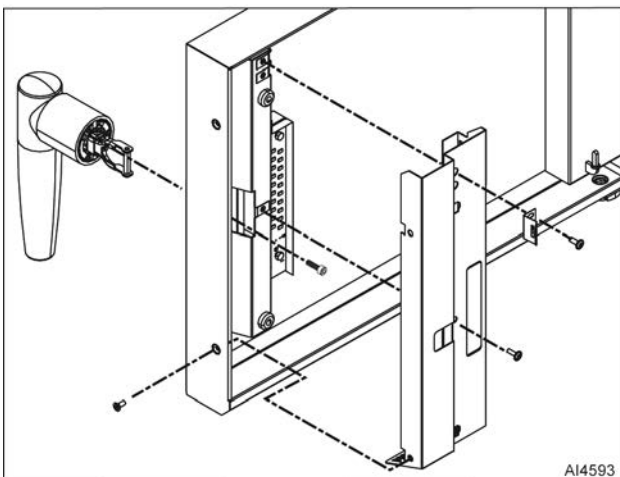

Fig. 43
3. Remove screws, retaining clip, and inner panel (Fig. 43).